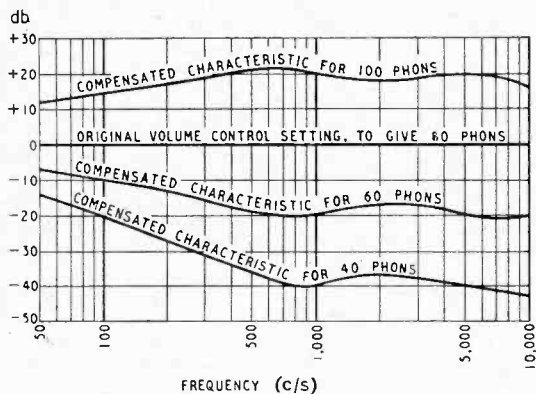

Fig. 3. Modified frequency characteristics necessary to level out the curves of Fig. 2; also derived from Fig. 1.
entered the volume control adjustments that would be necessary at each separate frequency if the original uniformity of loudness were to be preserved at levels of 60, 40, and 100 phons respectively. These are plotted as Fig. 3, and show the combined volume and tone control characteristics required for the specified conditions, according to the calculations of bass compensation exponents.
Fig. 3, as we have seen, shows the correct compensated volume control characteristics, assuming: (1) that the Fletcher-Munson curves hold good for mixtures of sound as well as for separate sounds. (2) that the volume control setting giving the level characteristic makes all sounds in the programme 80 phons loud all the time.
Fig. 4. If the compensated 60-phon characteristic of Fig. 3 were used, instead of a level one, to reproduce sound life-size at 60 phons, the result would be excessive bass as shown here.